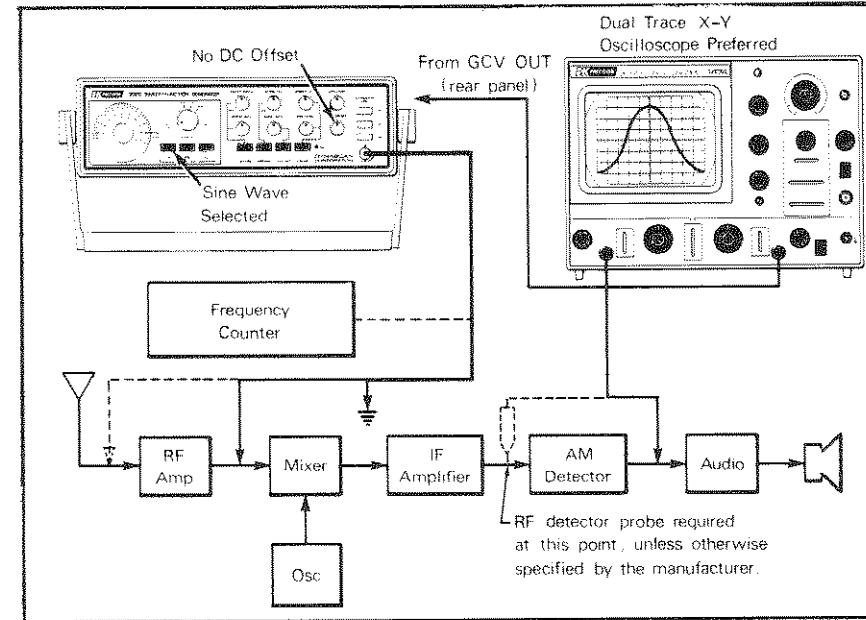

Fig. 17. AM receiver alignment.
1. Use the test set-up of Fig. 17, which will produce a linear sweep display.
When using a conventional oscilloscope probe, the display will be an envelope such as shown in Fig. 14. The relative gain or attenuation of all frequencies within the swept band is displayed. The display may be analyzed for acceptable or unacceptable frequency response characteristics. In wideband amplifiers, the objective is usually to maintain a flat frequency response over the widest possible bandwidth. Frequency response displays of filters and coupling networks show the cutoff frequency and the sharpness of the cutoff. The frequency response display is often the basis for alignment of RF circuits (Fig. 17 and 18). The display also may be analyzed to determine the center frequency of bandpass, symmetry of bandpass bandwidth, gain or signal amplitude, Q, and rejection of adjacent frequencies.